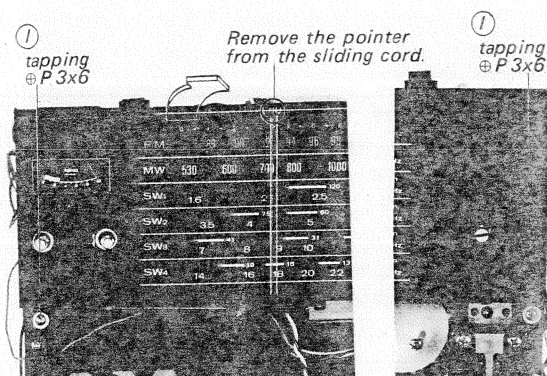

Fig. 2-13. Fm front end block removal
5. Remove the two screws marked ① in Fig. 2-13 and remove the dial scale in the direction shown by the arrow.